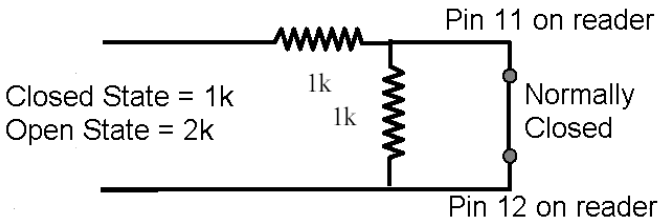

FIGURE 3. Normally Closed Wiring for Reader Tamper
5. For tamper wiring, connect Pins 11 and 12 to a normally closed supervised input, as shown in Figure 3 for a standard SWH supervised input.